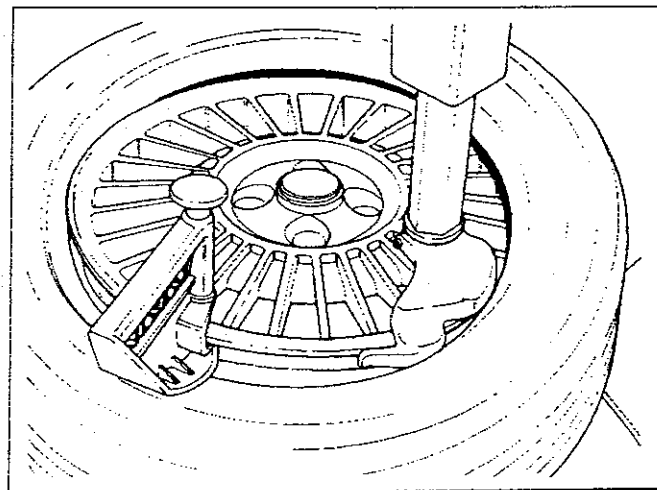

Fig.24
C. Mount the upper bead following the directions in section 3. With low profile tires the bead depressor tool (option #4003444 Fig.24) can help to ease the mounting of the top bead.